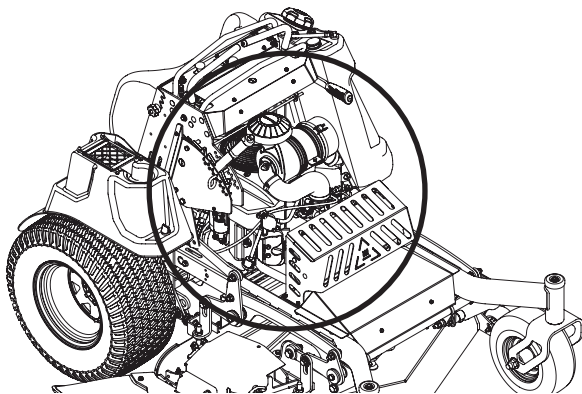

Fig. 18
- Clean around the exhaust manifold, fuses, all wiring and harnesses, muffler pipe, muffler shield, engine intake screens and cooling fins, etc (Fig. 18).